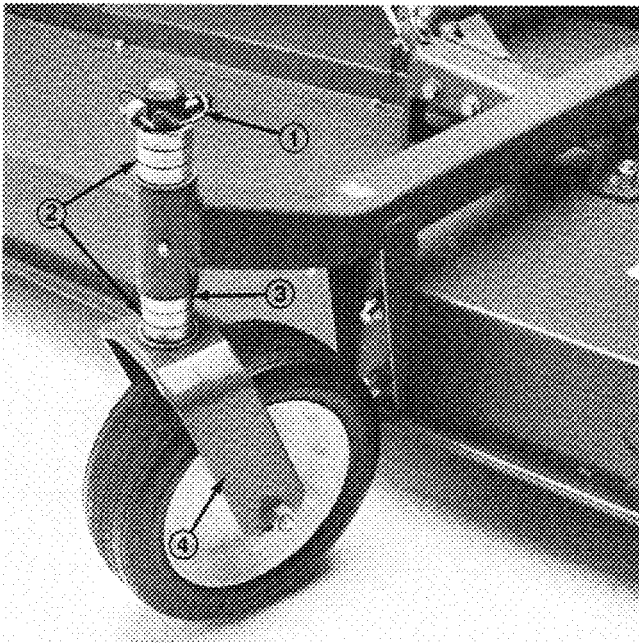

Figure 1
3. Slide spacers onto caster spindle to get desired height-of-cut: refer to Height-of-Cut Chart, page 10. Slide thrust washer onto spindle, push large caster spindle through front caster arm and small caster spindle through rear caster arm, install remaining spacers onto spindle and install lynch pin to secure assembly (Fig. 1, 2).
**IMPORTANT:** Thrust washer — not the spacers — must contact the bottom of the caster arm (Fig. 1, 2).
**Note:** Insert lynch pin in front side of spindle with caster wheels pointed in a forward direction (Fig. 1, 2).